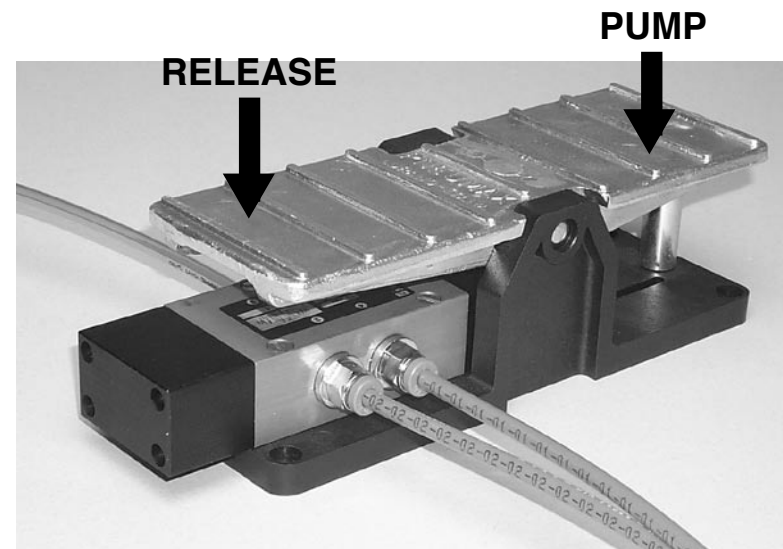

FIG. 3
2.2) Operation (Ref. to Fig. 3)